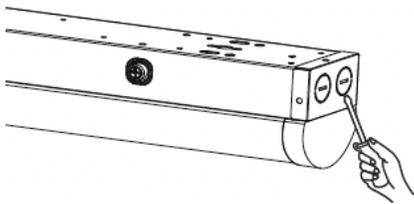

Fig. 13
2. Remove the knockout at the end of housing (Fig. 13).